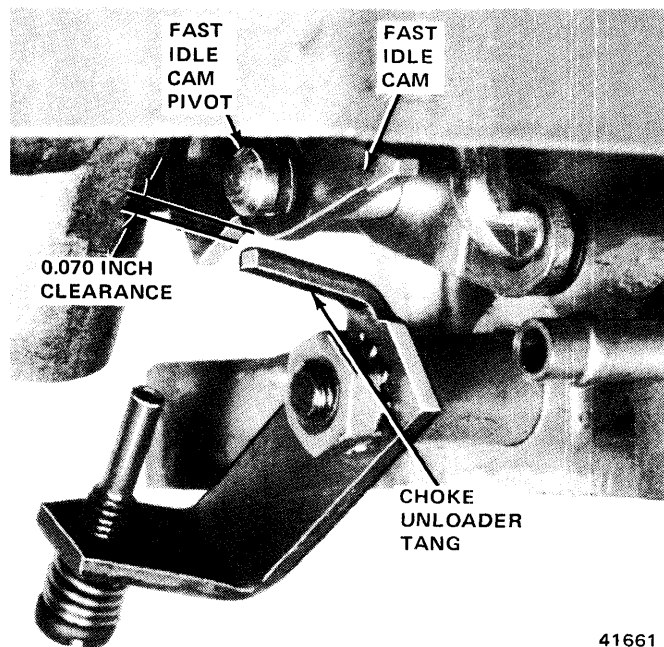

Fig. 4-110 Unloader to Fast Idle Cam Clearance
(4) After making adjustment, open throttle until unloader tang is directly below fast idle cam pivot. There must be exactly 0.070-inch clearance between unloader tang and edge of fast idle cam (fig. 4-110).
(5) Operate throttle and check unloader tang to make sure it does not bind, contact or stick on any part of carburetor casting or linkage. After carburetor instal-